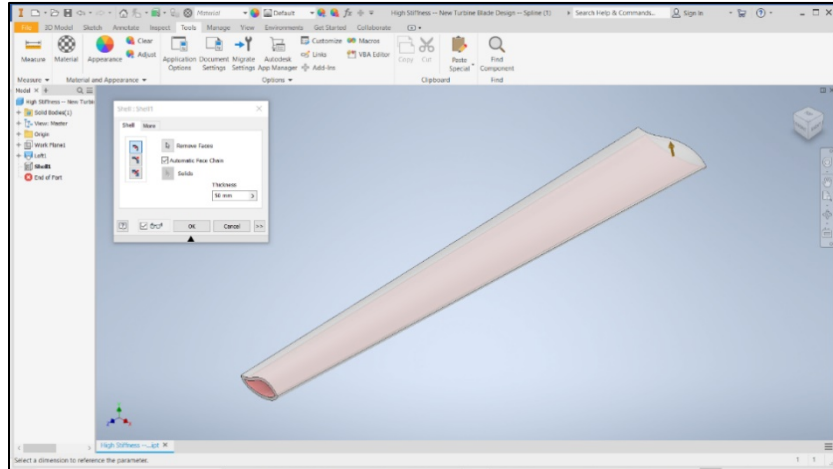

Figure 8. CAD design of a “standardize turbine blade”.
2. **Stage 1 (During DS-5):** As a *team*, create a solid model of a **standardized turbine blade**. The standardized turbine blade (Figure 8) has fixed dimensions (a , b , t , and L). Complete your solid model in Autodesk Inventor 2021.